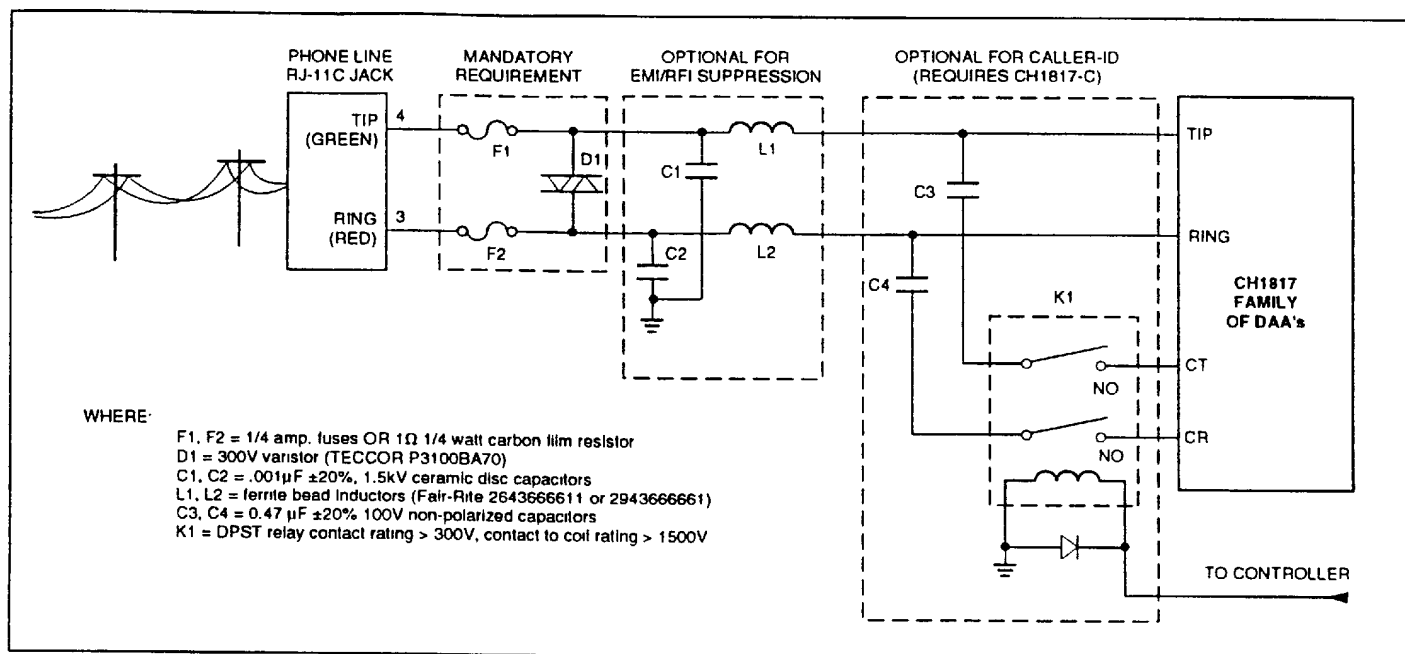

Figure 3. Telephone Line Interface
7. See Figure 3 for additional telephone interface options.
- The CH1817 DAA as is meets or exceeds the hazardous voltage, surge and leakage requirements of the FCC. For applications that connect to Canadian phone lines, governed by the DOC (Department of Communications) and to further protect the CH1817 from field failure on excessively poor quality lines and to maintain U.L. recognition, a higher level of transient protection is required, thereby making mandatory the circuit consisting of two fuses and one varistor as shown in Figure 3. Adding these three devices will not affect FCC registration.